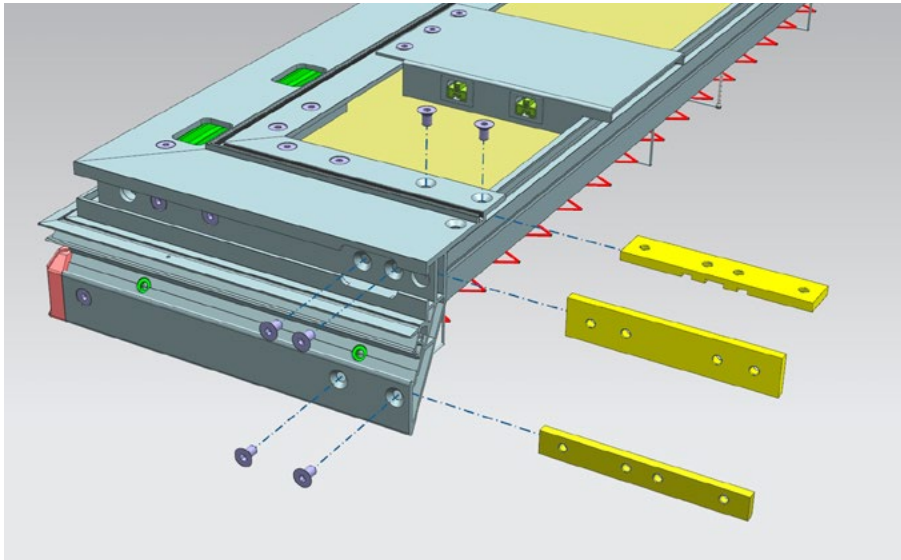

Figure 7: Insert the coupling plates and secure each coupling plate using the supplied M6x10mm bolts.
- Insert the coupling plates and secure each coupling plate using the supplied M6x10mm bolts. Do not use force while inserting the plates, Figure 7.